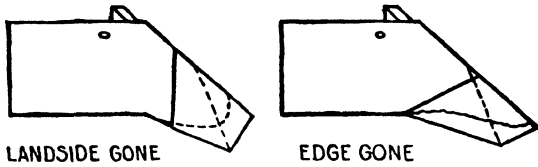

Fig. 79
1. Examine the worn point to determine how much of a point will be needed to bring the share to its original length, and to the width required. Fig. 79.